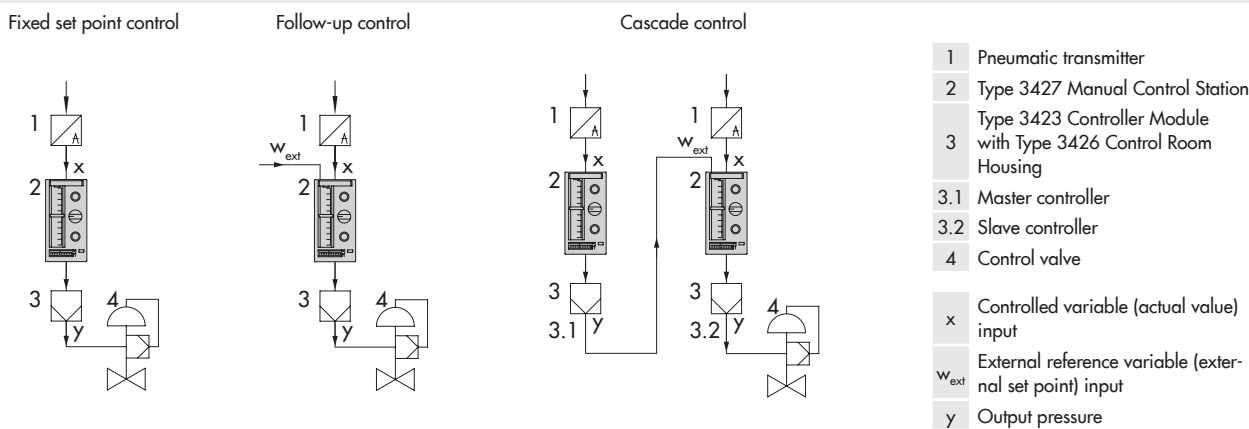

Fig. 4: Control applications
- Fig. 4 shows the functional diagram with the pneumatic circuit.